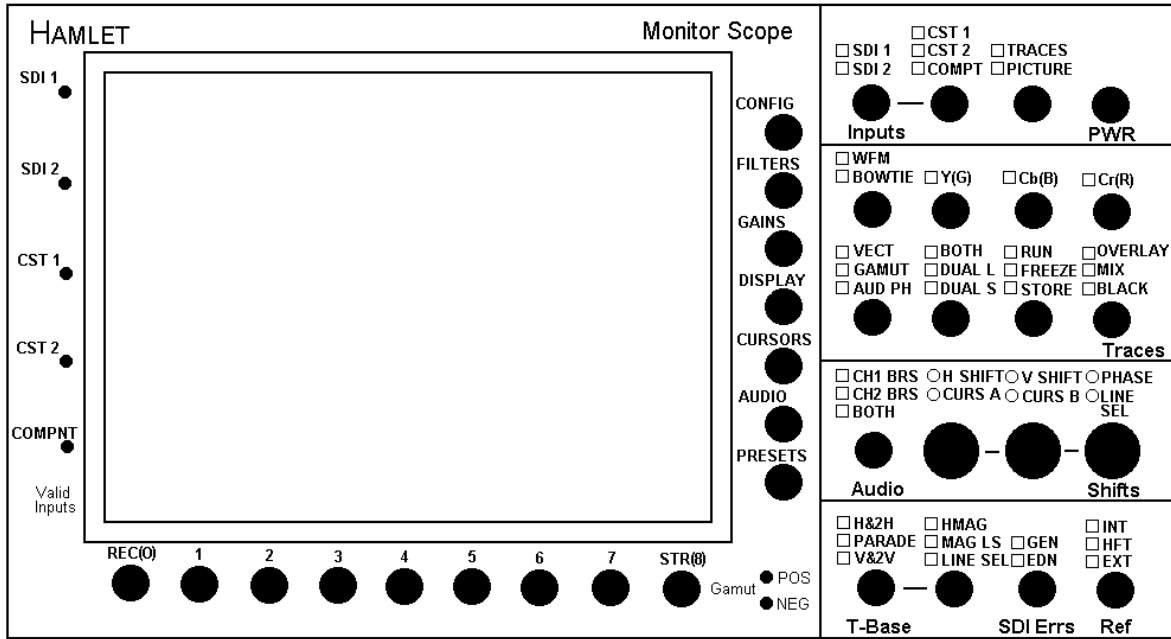
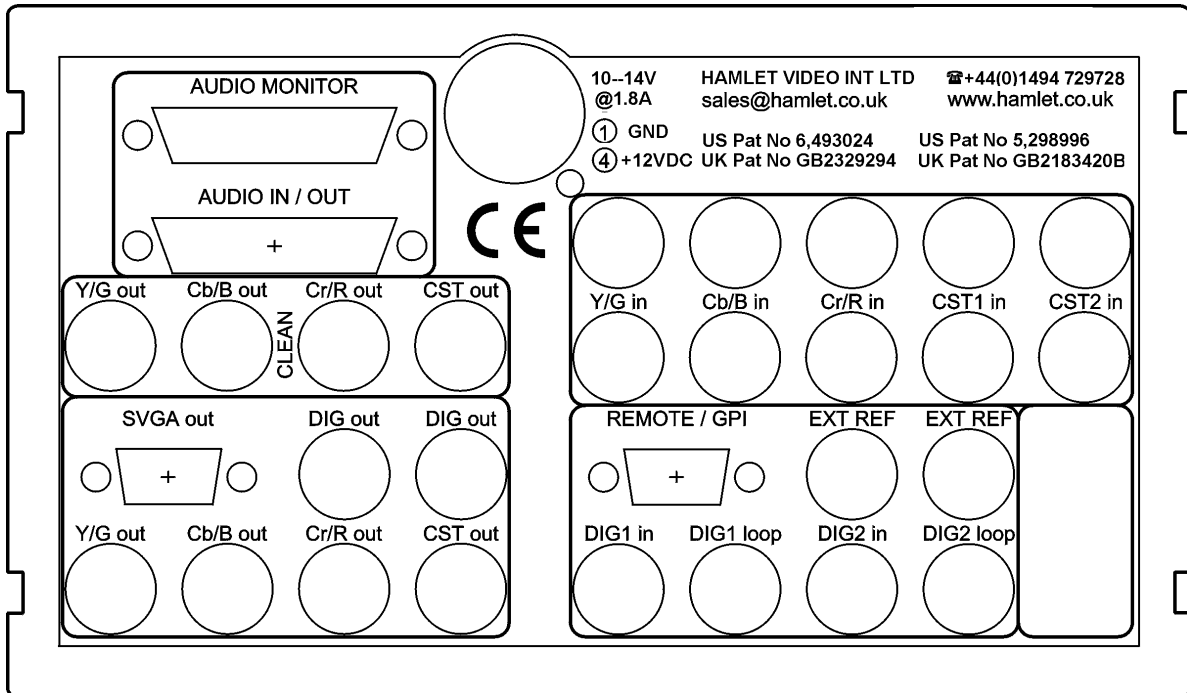

Fig 1
Fig 2
4. Hold down the front panel Y(G) button whilst pressing the PWR button, see fig 1. This starts the MS601 in a pre - programmed state, see fig 2. When the unit is subsequently turned on, it will remember the panel settings used previously.